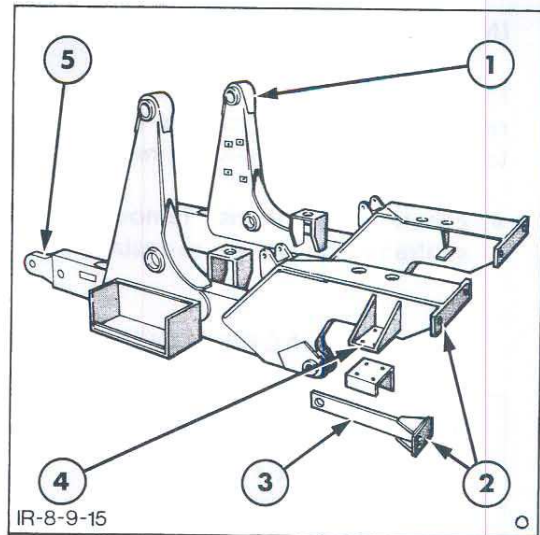

Figure 15
7. Place a suitable sling in the subframe to loader pivot pin hole, refer to Figure 15 and support the subframe using the appropriate lifting equipment.